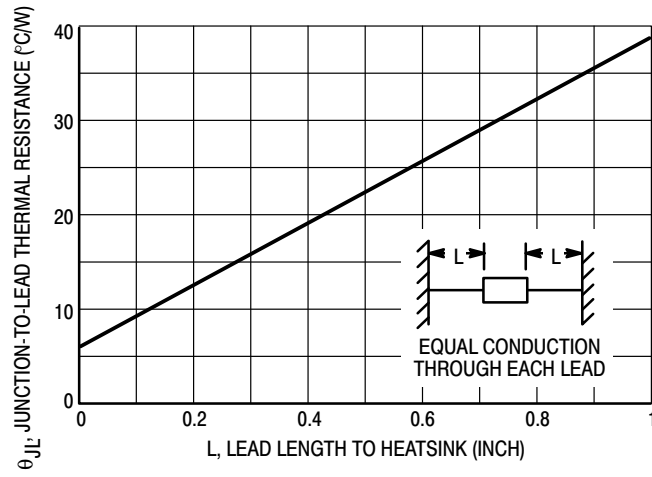
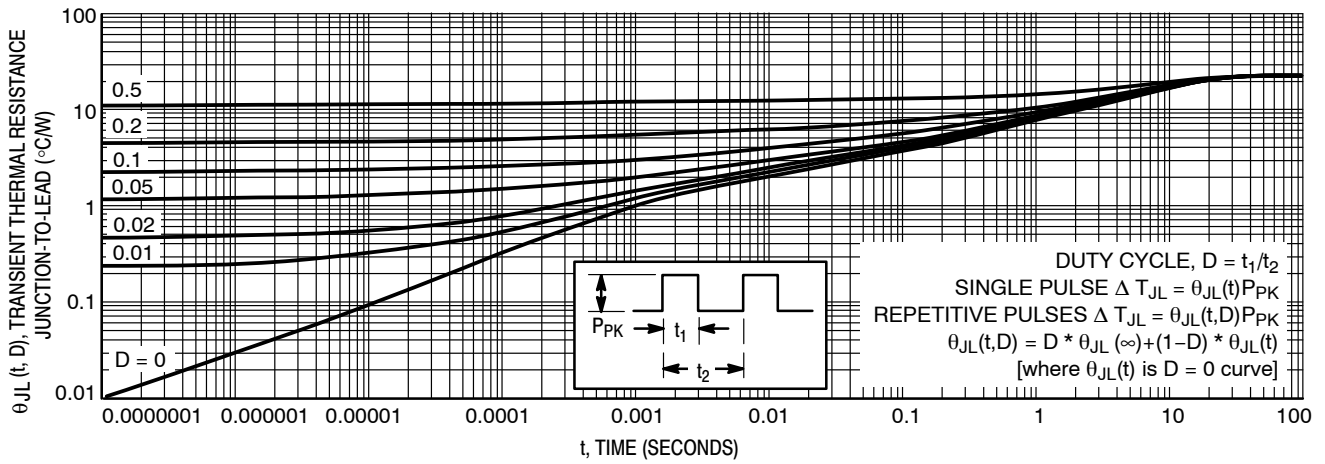
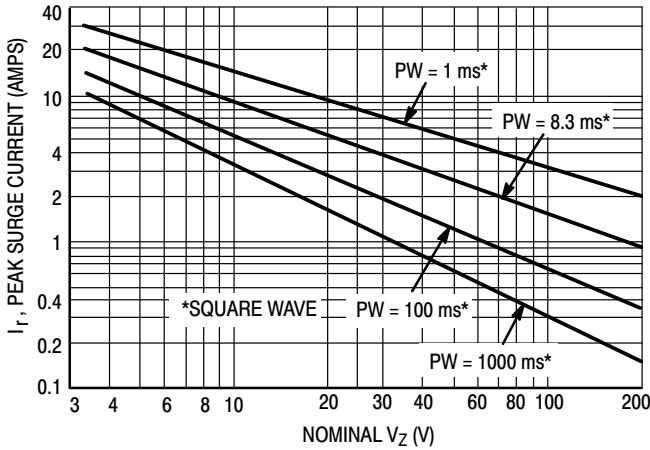
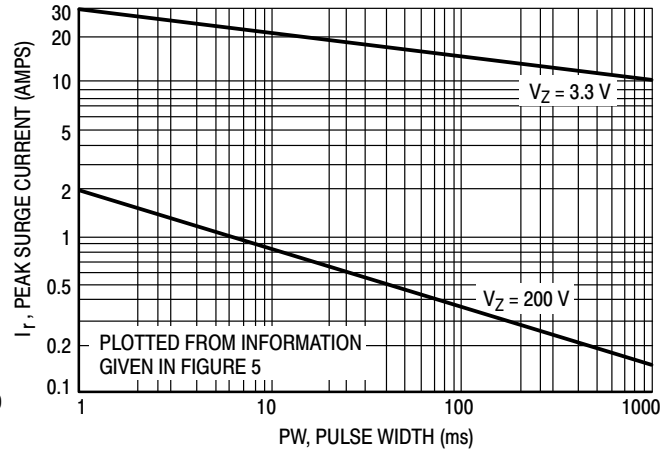

Figure 1. Typical Thermal Resistance
Figure 4. Typical Thermal Response
Figure 5. Maximum Non-Repetitive Surge Current
Figure 6. Peak Surge Current versus Pulse Width
- SURGE CURRENT (I_R):** Surge current is specified as the maximum allowable peak, non-recurrent square-wave current with a pulse width, PW, of 8.3 ms. The data given in Figure 5 may be used to find the maximum surge current for a square wave of any pulse width between 1 ms and 1000 ms by plotting the applicable points on logarithmic paper. Examples of this, using the 3.3 V and 200 V zener are shown in Figure 6. Mounting contact located as specified in Note 2 ($T_A = 25^\circ\text{C} + 8^\circ\text{C}, -2^\circ\text{C}$).
- SURGE CURRENT (I_R):** Surge current is specified as the maximum allowable peak, non-recurrent square-wave current with a pulse width, PW, of 8.3 ms. The data given in Figure 5 may be used to find the maximum surge current for a square wave of any pulse width between 1 ms and 1000 ms by plotting the applicable points on logarithmic paper. Examples of this, using the 3.3 V and 200 V zener are shown in Figure 6. Mounting contact located as specified in Note 7 ($T_A = 25^\circ\text{C} + 8^\circ\text{C}, -2^\circ\text{C}$).
ΔT_{JL} is the increase in junction temperature above the lead temperature and may be found from Figure 4 for a train of power pulses or from Figure 1 for dc power.
Data of Figure 4 should not be used to compute surge capability. Surge limitations are given in Figure 5. They are lower than would be expected by considering only junction temperature, as current crowding effects cause temperatures to be extremely high in small spots resulting in device degradation should the limits of Figure 5 be exceeded.